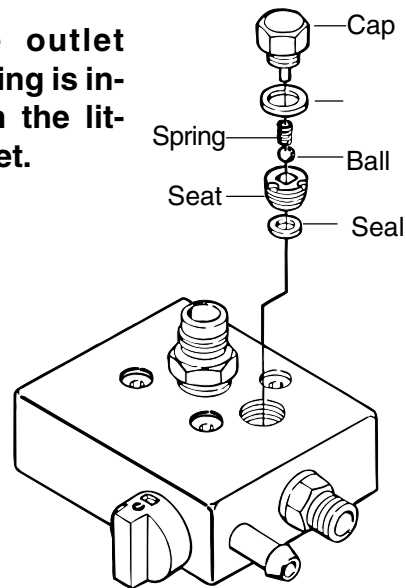

Figure 48 - Servicing Outlet Valve
It may be occasionally necessary to remove and clean the outlet valve or replace normal wear parts inside the valve. See Figures 47 and Figure 48.
4. Using a six-millimeter allen wrench, remove the seat and ball assembly. See Figure 48.